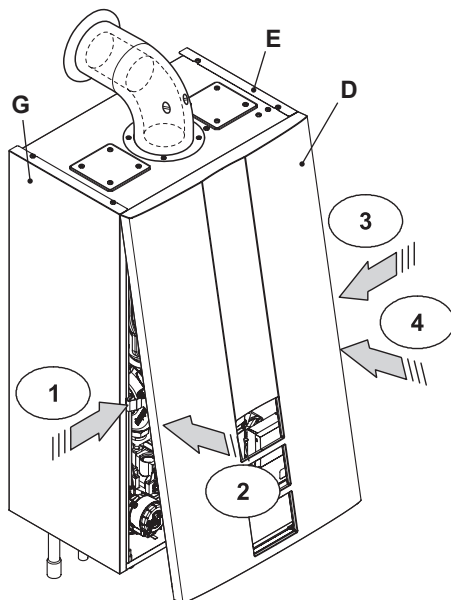

Fig. 10.8
- Push the case panel "D" down and in until completely held in place (Fig. 10.8) step 1-2.
- Repeat the same operation on the opposite side of the front panel "D", (Fig. 10.8) step 3-4.